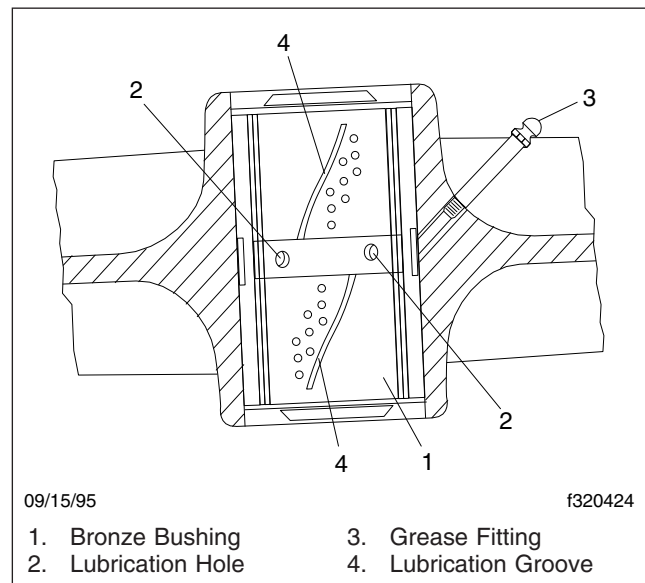

Fig. 10, Hendrickson RT2 and RTE2 Series Bushing Lubrication
3. Use a multipurpose chassis grease and lubricate the bronze, ball-indented bushings in the spring eyes at the grease fitting. See Fig. 10. Continue to lubricate until grease exits both ends of the bushing. If the pin will not accept lubricant, remove the pin and clean the lubrication channels where lubricant may have hardened. Remove the safety stands.